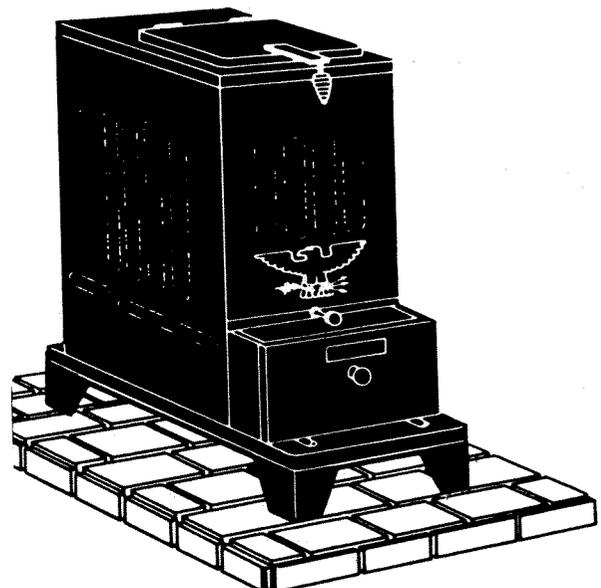

Fig. 66. The Wood Chuck.
7. **Lehman Hardware & Appliances, Inc.** (dealer), Box 41, Kidron, OH 44636. The Wood Chuck (Fig. 66 and Table 7) has a large loading door on top.